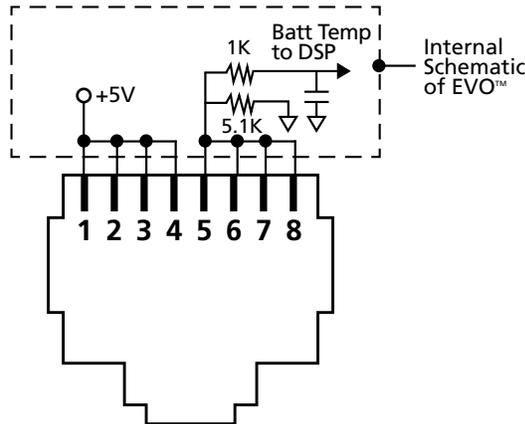

Fig 3.13 Pinout of RJ-45 Jack marked "Battery Temp Sensor" on the front panel of EVO™ [6 in Fig 2.1].
RJ-45 Plug [2 in Fig 2.5(a)]: The RJ-45 Plug is required to be plugged into the RJ-45 Jack marked “Battery Temp Sensor” on the front panel of EVO™ (6 in Fig 2.1). Pinout of the RJ-45 jack is shown in Fig 3.13.
Pinout of this RJ-45 Jack [marked "Battery Temp Sensor" on the front panel of EVO™ (6 in Fig 2.1)] is shown at Fig 3.13 below:
- o Connect to any of Pins 1/2/3/4 [Refer to Fig 3.13 for pinout of RJ-45 Jack. Pins 1 to 4 are internally shorted]
- o Connect to any of Pins 5/6/7/8 [Refer to Fig 3.13 for pinout of RJ-45 Jack. Pins 5 to 8 internally shorted]